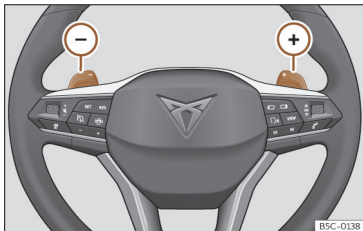

Fig. 116 Steering wheel: automatic gearbox levers
- Press the (+) gear shift paddle to change up a gear >>> **Fig. 116**.